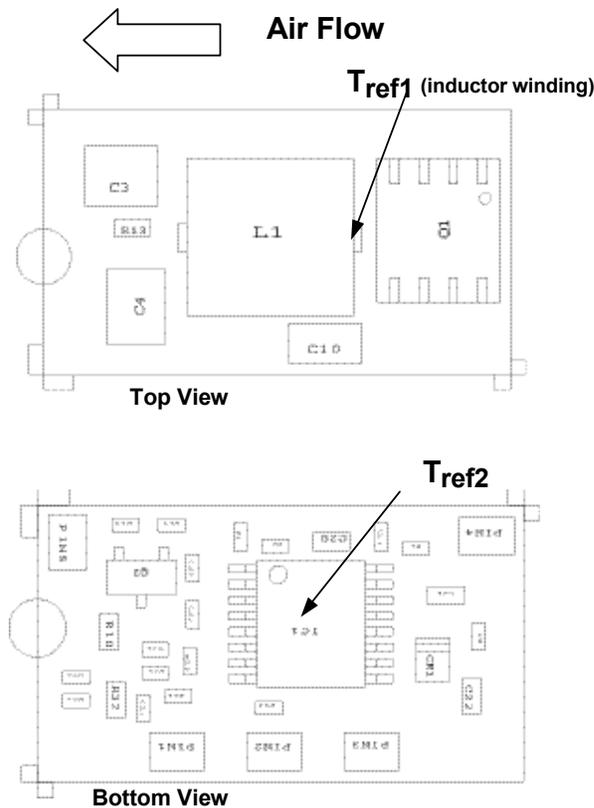
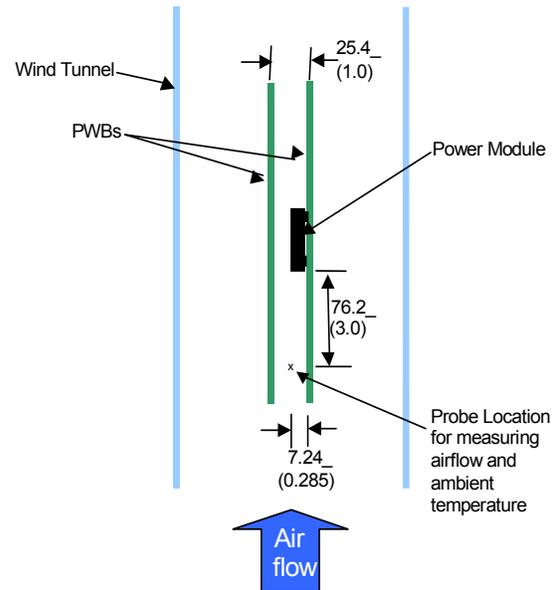

Figure 32. T_{ref} Temperature measurement location.
Figure 33. Thermal Test Set-up.
Considerations include ambient temperature, airflow, module power dissipation, and the need for increased reliability. A reduction in the operating temperature of the module will result in an increase in reliability. The thermal data presented here is based on physical measurements taken in a wind tunnel. The test set-up is shown in Figure 33. Note that the airflow is parallel to the long axis of the module as shown in figure 32. The derating data applies to airflow in either direction of the module's long axis.
The thermal reference point, T_{ref 1} used in the specifications of thermal derating curves is shown in Figure 32. For reliable operation this temperature should not exceed 125°C.